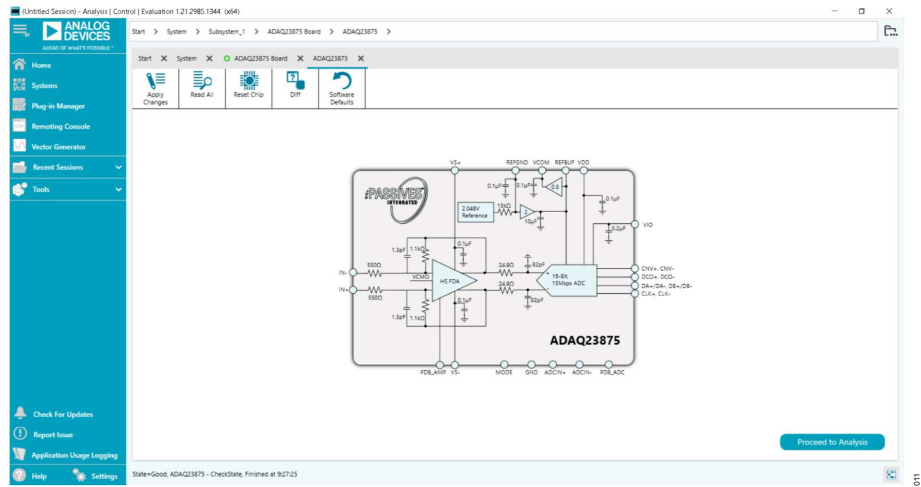

Figure 11. EVAL-ADAQ23875FMCZ Board View
6. Click **Proceed to Analysis** to open the EVAL-ADAQ23875FMCZ analysis shown in Figure 11.